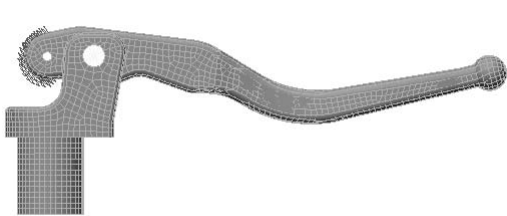

Figure 8-97 The 1D spring support applied to the selected surface of the model
7. Enter **1000** in the **Stiffness** edit box of the dialog box. Next, choose the **OK** button; the 1D spring support is applied to the selected surface of the model, refer to Figure 8-97.